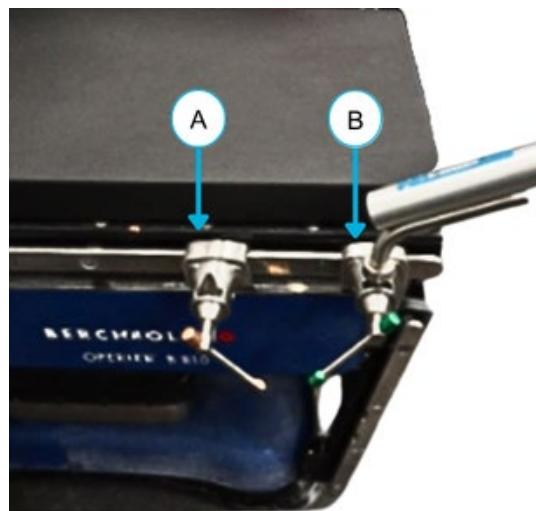

Figure 10-12: Clark Clamp Position
- Position the Clark Clamp (**A**) next to the stirrup clamp (**B**) (**Figure 10-12**)